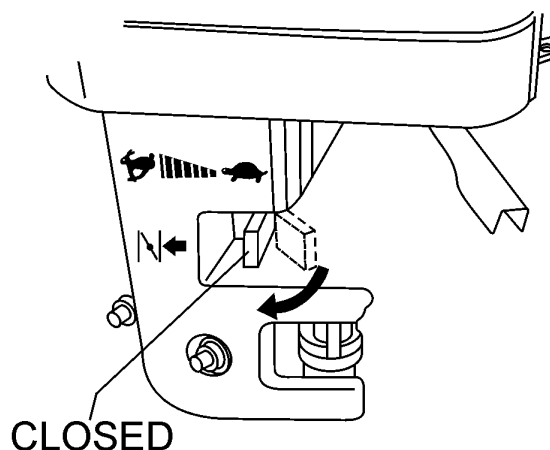

Figure 22. Choke Lever (Closed)
4. If starting a cold engine place the choke lever (Figure 22) in the "CLOSED" position.